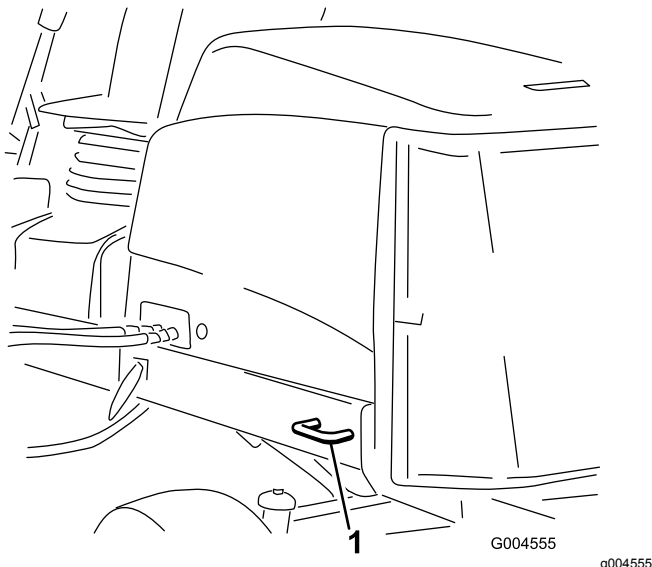

Figure 40
- Rear—each side of the machine on the rear frame (Figure 40)